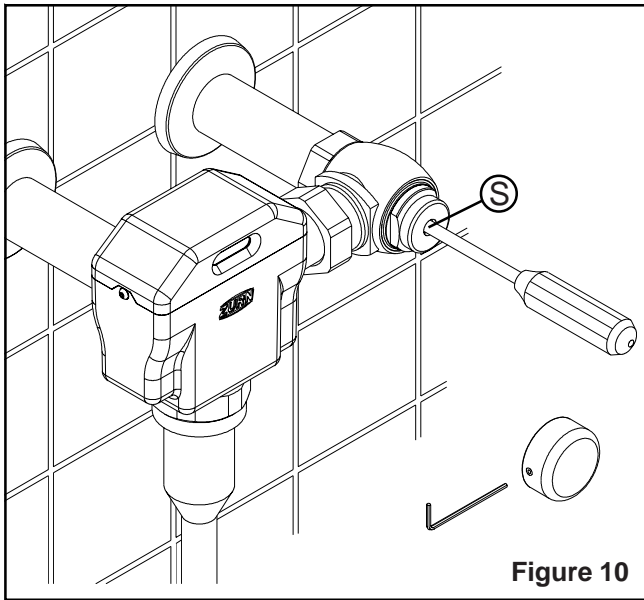

Figure 10
When accessing filter, be certain the stop valve is closed at adjusting screw (S) Figure 10.